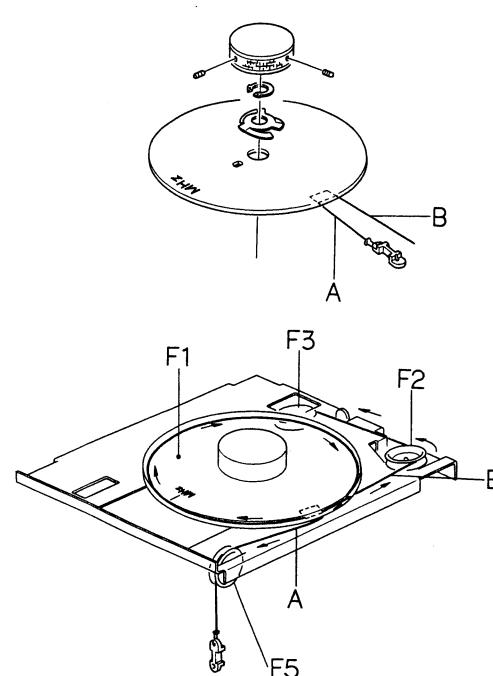

Fig. 5.4
- (5) Refer to Fig. 5.4. Winding around F1 (dial pulley), pass the thread A via F5 (pulley). Pass the thread B above the thread A around F1, then send B along via F2 and F3.